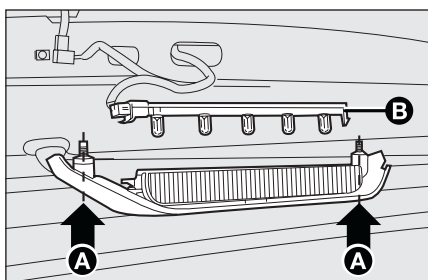

fig. 30
- ☐ undo both fastening bolts **A**-fig. 30;